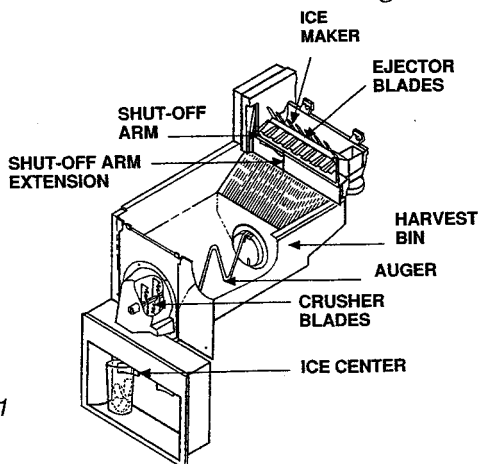

Figure 71
- When the Dispenser bar is pressed, the large auger moves ice from bin to Dispenser, providing ice cubes or crushed ice. See Figure 71.